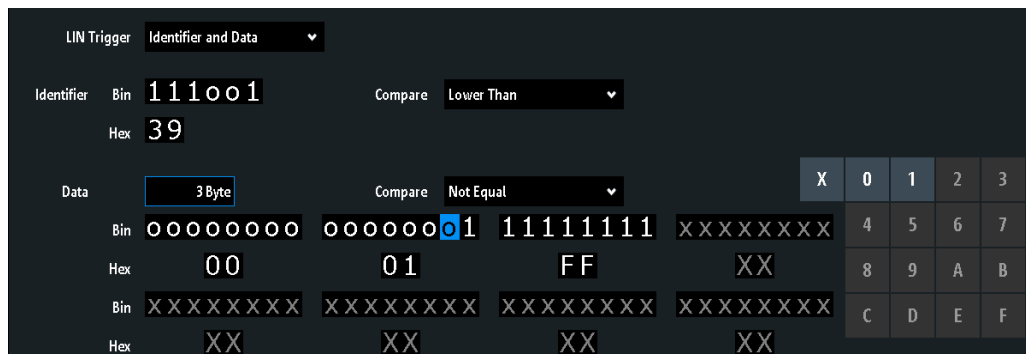

Figure 12-32: Trigger setup to trigger on identifier and data patterns
- "Identifier and Data" Triggers on a combination of identifier and data condition. The instrument triggers at the end of the last byte of the specified data pattern. An example is shown in Figure 12-32. See "Identifier condition" on page 284 and "Data condition" on page 285.